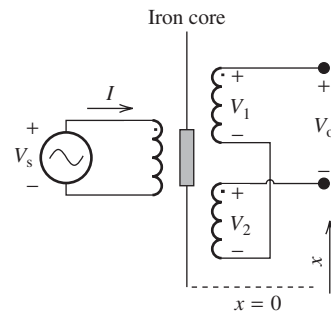

FIGURE P11.14 LVDT.
11.14 (A) For an LVDT, the relationship between the magnitude of the output voltage and the displacement, x , of the iron core is approximately linear over a reasonable range of movement of the iron core and is expressed by a constant of proportionality, G , as: $x = G \cdot V_o$. An engineer uses this kind of LVDT (shown in Figure P11.14) to measure the displacement of a gear. The engineer measures the instant value of output voltage: $V_1 = 5 \text{ V}$ and $V_2 = 2 \text{ V}$, and the sensitivity (or gain) G of the transformer is 0.6 mm/V . Determine the displacement of the gear.